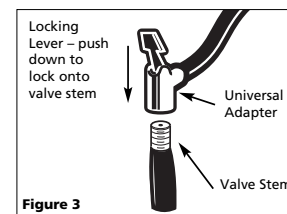

Figure 3
d.) Press locking lever down to lock onto valve stem (see Figure 3).
1. To use inflation accessories, insert accessory into the universal adapter and push the lever to lock into place (see Figure 3). The inflation accessory will fit securely.